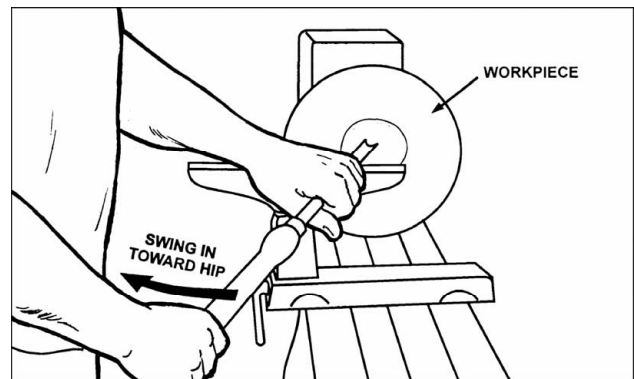

Fig. 22
5. Place the 1/2" bowl gouge on the tool rest at the center of the workpiece with the flute facing the top of the bowl. The tool handle should be level and pointed toward four o'clock, see Figure 22.
6. Use your left hand to control the cutting edge of the gouge, while your right hand swings the tool handle around towards your body, see Figure 22. The flute should start out facing the top of the workpiece, and rotate upward as it moves deeper into the bowl to maintain a clean even curve. As the tool goes deeper into bowl, progressively work out toward the rim. It may be necessary to turn the tool rest into the workpiece, as you get deeper into the bowl.